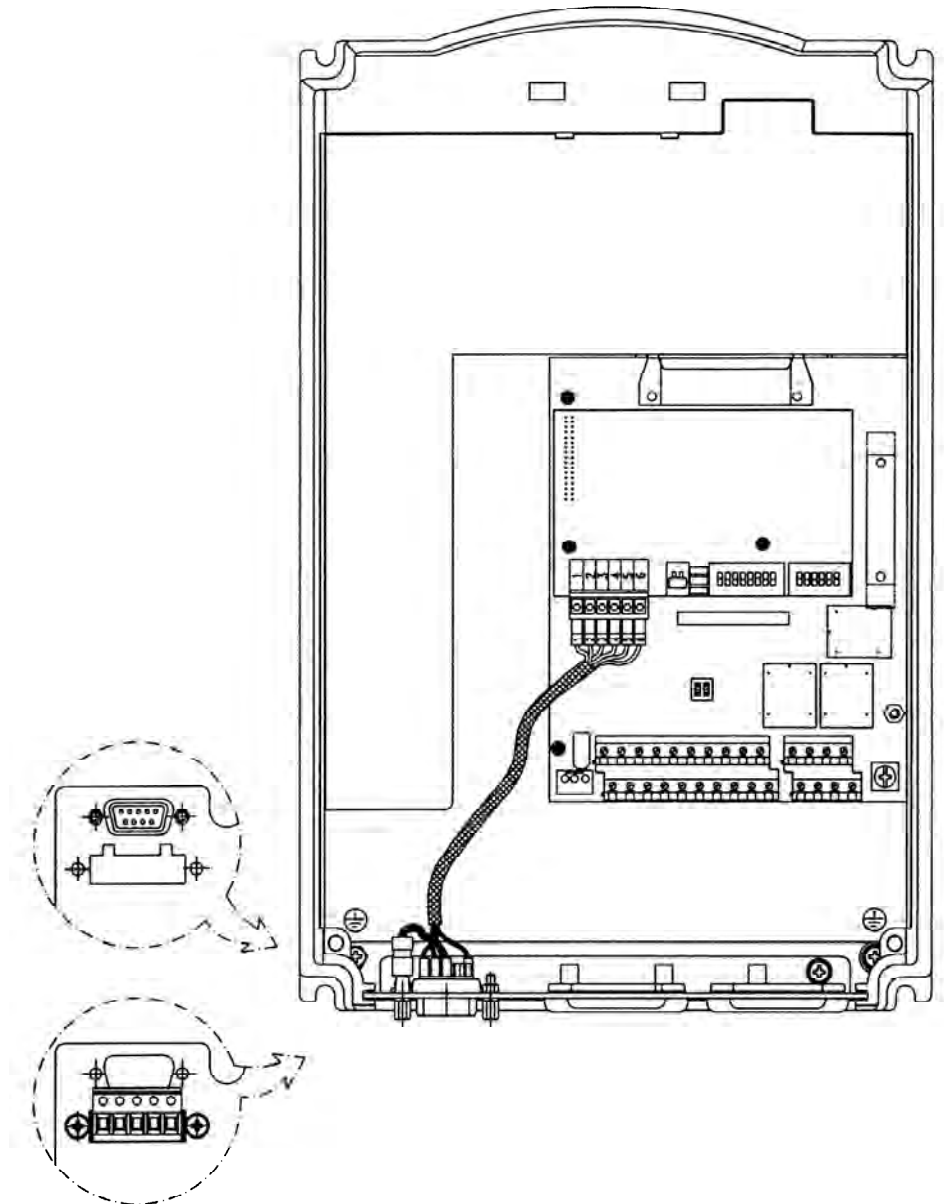

Figure 8.36 - Fastening of the Fieldbus connector
- Fix the Fieldbus connector to the inverter frame by using the 150 mm (5.9 in) cable (refer to figure 8.36).